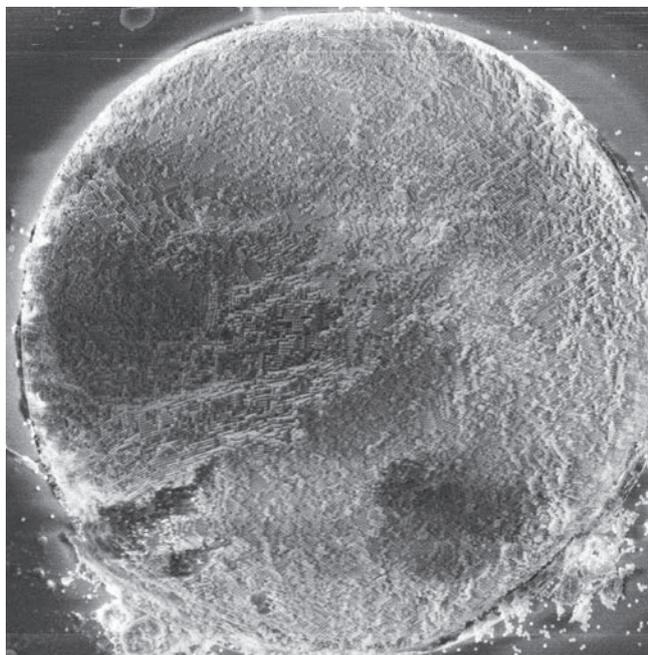

Fig 4. SEM image of full capillary cross-section, with 470 nm particles.
beautiful crystalline structures one sees in the SEM images are only on the outside, and that the material was randomly packed inside (3). This was a reasonable conjecture, but we wrote a response pointing out that we see crystalline domains when we cleave the capillaries. An illustration of what we typically see in the lab is presented in Figure 2 and Figure 4. Our own conjecture was that there must be enough vacancy defects to support a higher flow rate (4). We were both wrong, but it would be a while before we figured this out.